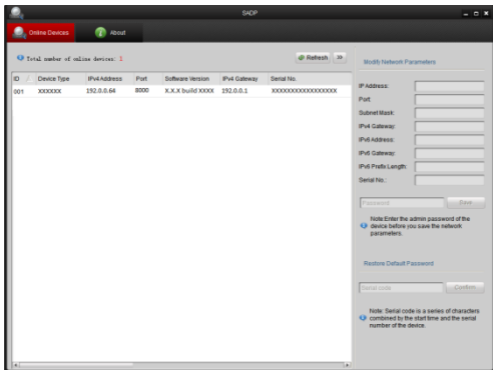

Figure 3-2 Search Online Devices
- Use SADP, a software tool which can automatically detect network camera in the LAN and list the device information like IP address, subnet mask, port number, device serial number, device version, etc., shown in Figure 3-2.